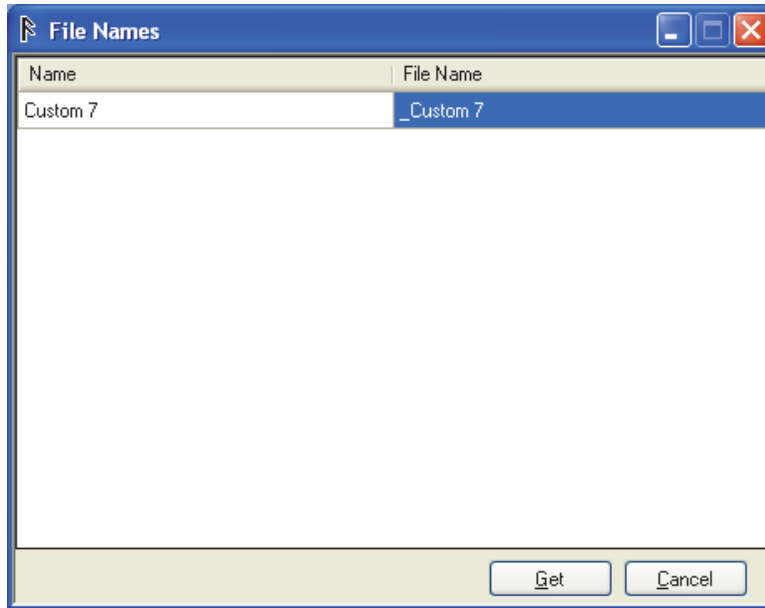

Figure 5-24. File Names Dialog with Preset Name
2. Click the **Get from...** button and the **File Names** dialog box in Figure 5-24 shows in the display.